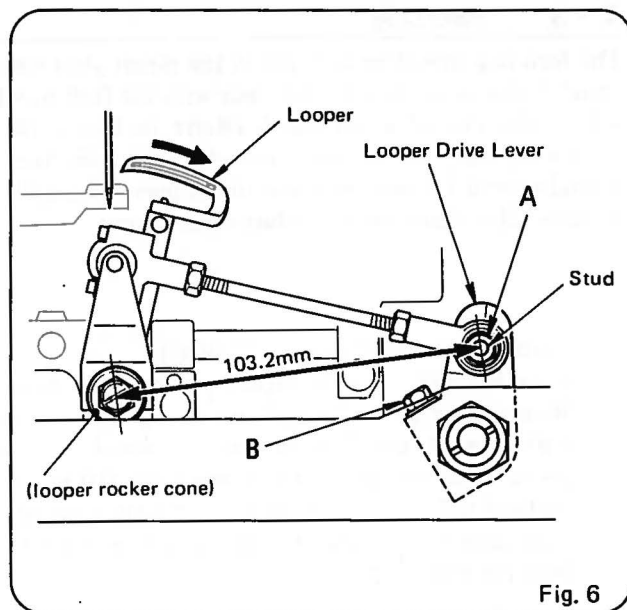

Fig. 6
The center distance between the bell crank stud and the looper carrier shaft should be 103.2 mm when the looper is in the farthest right position, as shown in Figure 6. Adjustment can be made after loosening the screw (B) of the bell crank. After the adjustment, tighten the screw (B).